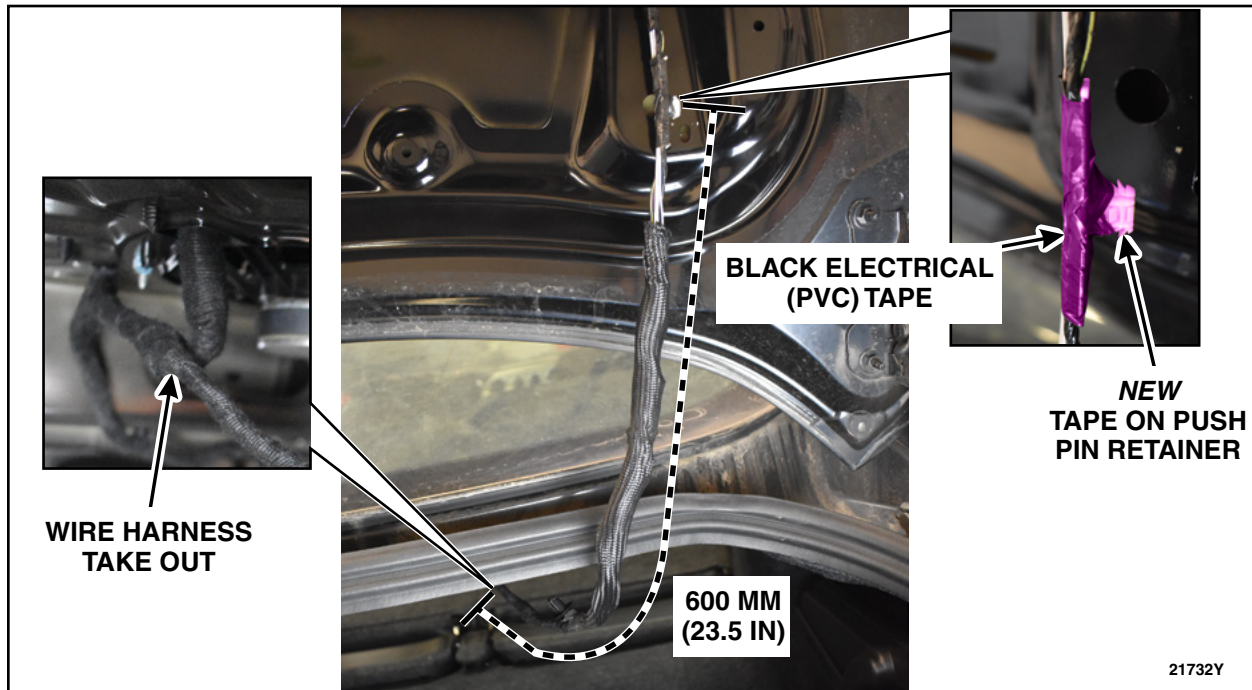

FIGURE 24
33. Measure 600 mm (23.5 in) from the wire harness take out, install the new tape on push pin retainer using some KT173510 or equivalent black electrical (PVC) tape. See Figure 24.